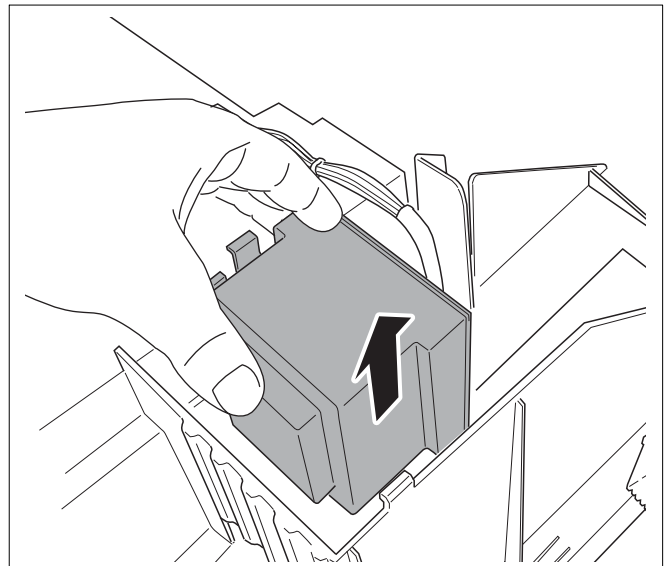

Fig. 100 Removing the transformer
- Remove the transformer by pulling it in the direction indicated by the arrow (see fig. 100).